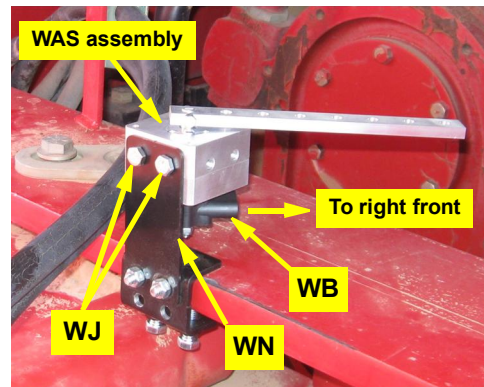

Figure 2d: Installed WAS assembly
- d. Using hardware **WJ**, attach the WAS assembly (from step 1) to bracket **WN**. The wire connector **WB** must face the right front section of the tractor (Figure 2d).